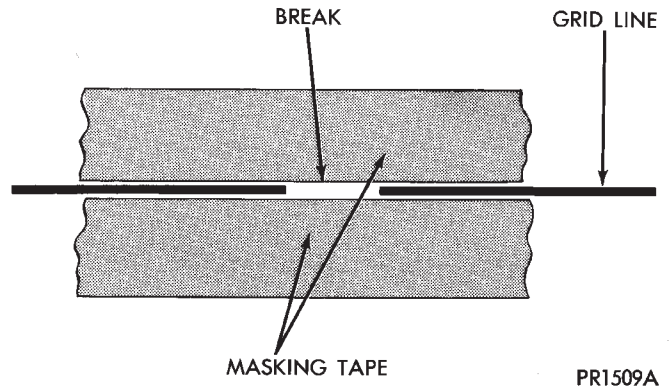

Fig. 6 Grid Line Repair
- (1) Mask repair area so conductive epoxy can be extended onto the line or the bus bar (Fig. 6).
- (2) Follow instructions in repair kit for preparing damaged area.
- (3) Remove package separator clamp and mix plastic conductive epoxy thoroughly. Fold in half and cut center corner to dispense epoxy.